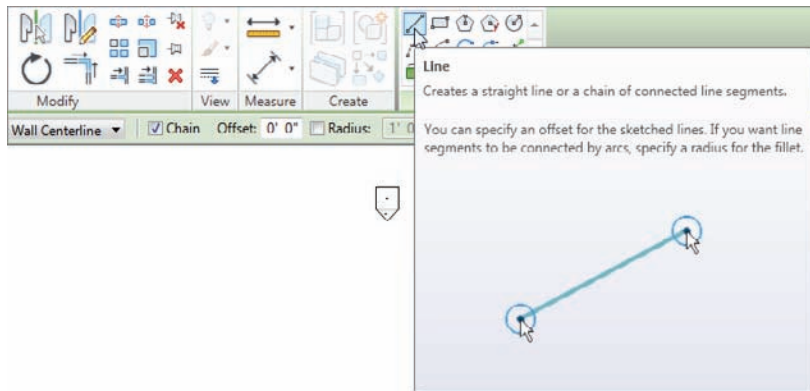

FIGURE 1.17 You can draw any shape you need.
4. The Draw panel has a series of sketch options. Because this specific wall is straight, make sure the Line button is selected, as shown in Figure 1.17.